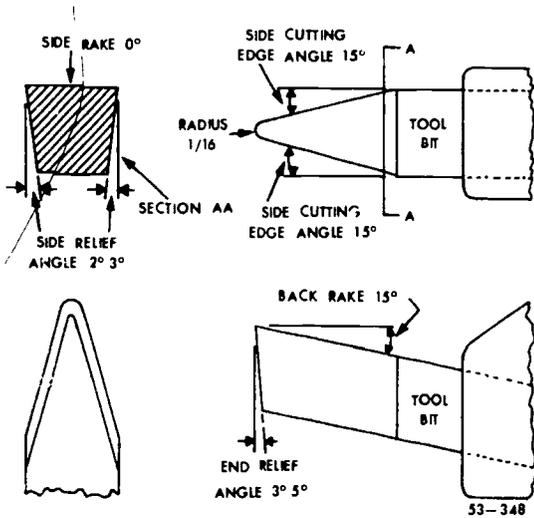
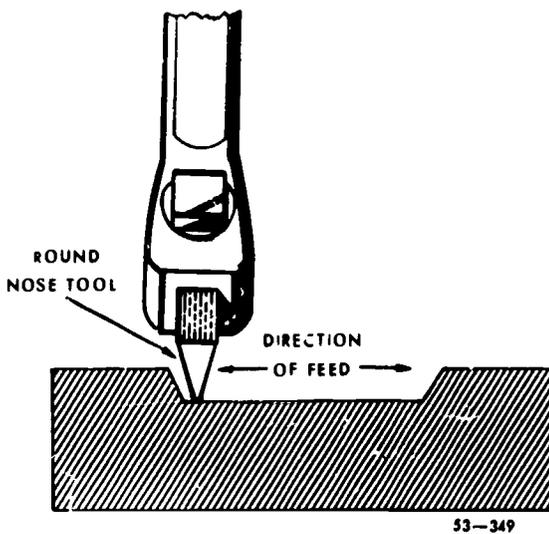

Figure 29 Roundnose tool angles
Figure 30. Roundnose tool.
d. Roundnose. The *roundnose tool*, shown in figure 29, has 0° side rake and cutting edges on both sides. These enable it to cut in both directions. You can use it to rough out metal between two shoulders, as shown in figure 30.